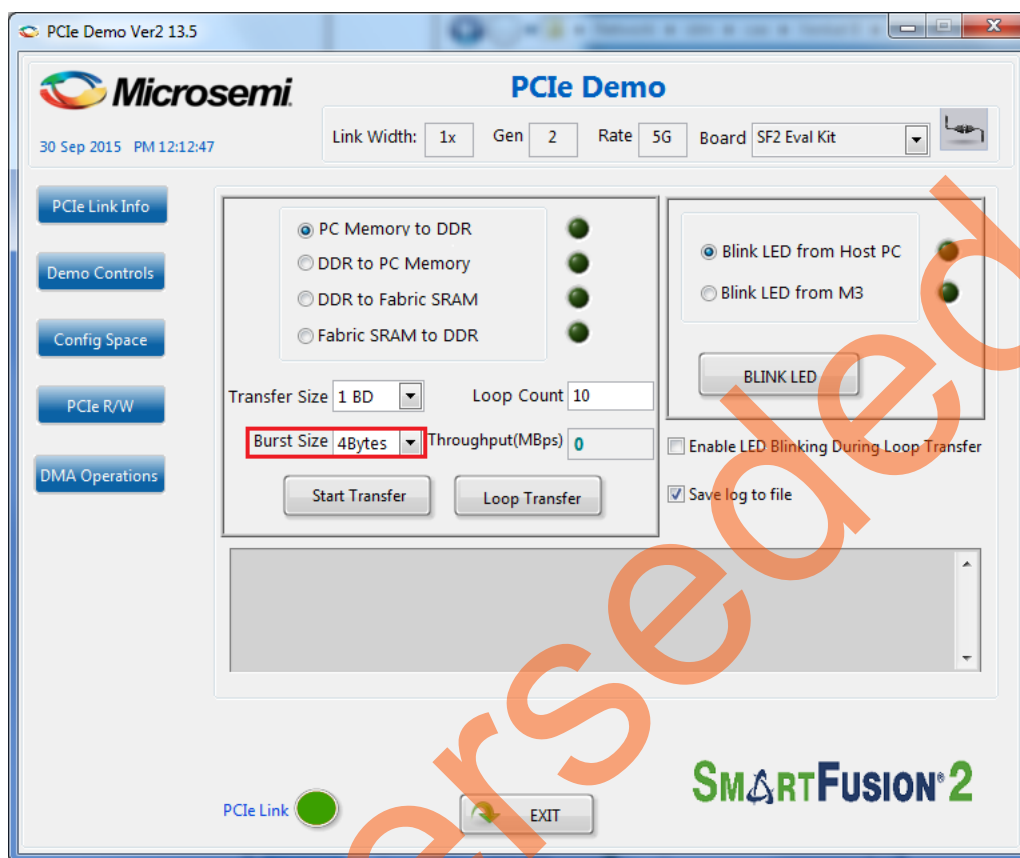

Figure 18 • Transfer Size Selection
- The **Burst Size** (TLP size) is fixed to 4 bytes as the HPDMA does not support burst and the actual size of the PCIe packet is the width of a single AHB transfer which is 4 bytes (32-bit AHB) as shown in Figure 18.